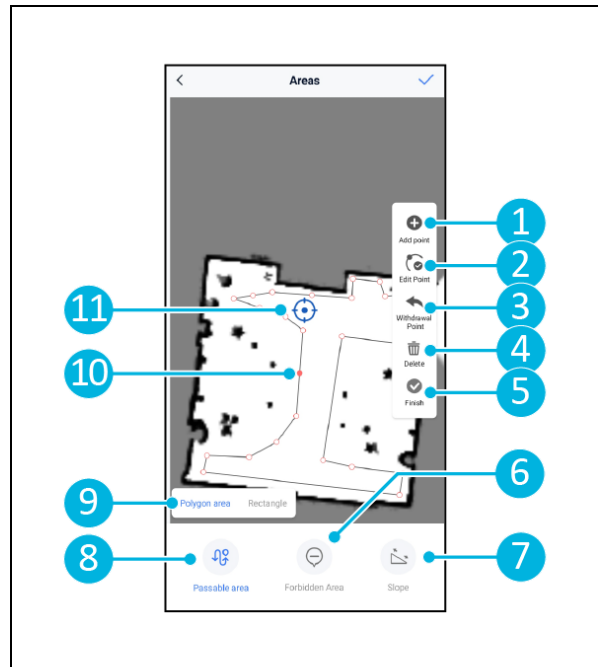

Figure 23
- a. [Passable area] (Figure 23, pos. 8). Mainly used to erase objects that are not permanently present in the space.
- b. [Forbidden area] (Figure 23, pos. 6). The co-botic 45 may **not** drive and clean here.
- c. [Slope] (Figure 23, pos. 7). The co-botic 45 may drive and clean here, but will limit the driving speed.
4. Select the desired shape (Figure 23, pos. 9). Polygon area*, Rectangle, Circle or Line. Options vary per chosen area.
6. Select [Finish] (Figure 23, pos. 5) to save the shape.
8. [Add point] (Figure 23, pos. 1) that will appear on the blue mark (Figure 23, pos. 11).
10. Select a point (Figure 23, pos. 10) to move it. Selecting it will make it turn orange.
11. [Edit point] (Figure 23, pos. 2) to add points beside the selected point or between all existing points if not point is currently selected.
12. [Withdraw a point] (Figure 23, pos. 3) to remove the point that was most recently added.
13. [Delete] (Figure 23, pos. 4) the selected point or shape.
14. [Finish] (Figure 23, pos. 5) to finalize the polygon area.